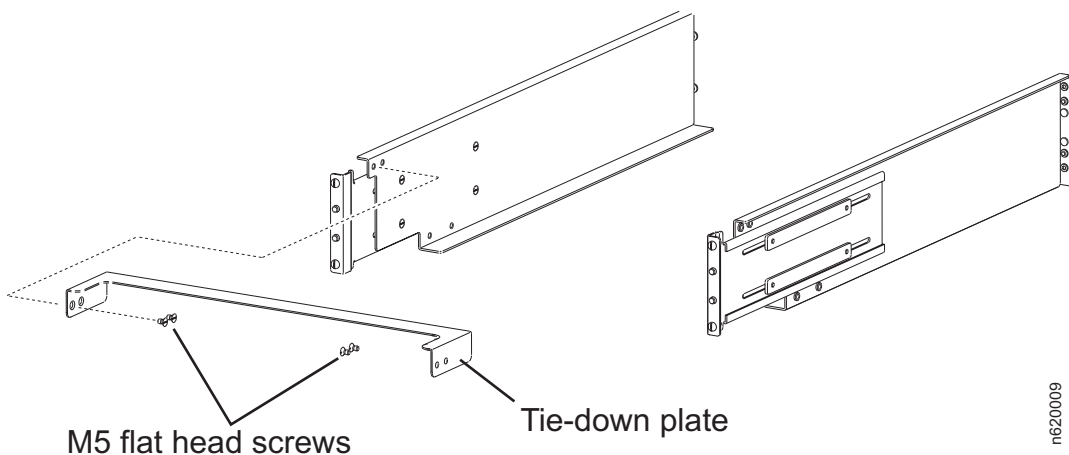

Figure 5. Attaching the tie-down plate
5. From the rear of the rack, attach the rear tie-down plate to the rails using four M5 flat head screws, as shown in Figure 5. The tie-down plate should fit over the rear of the system unit.